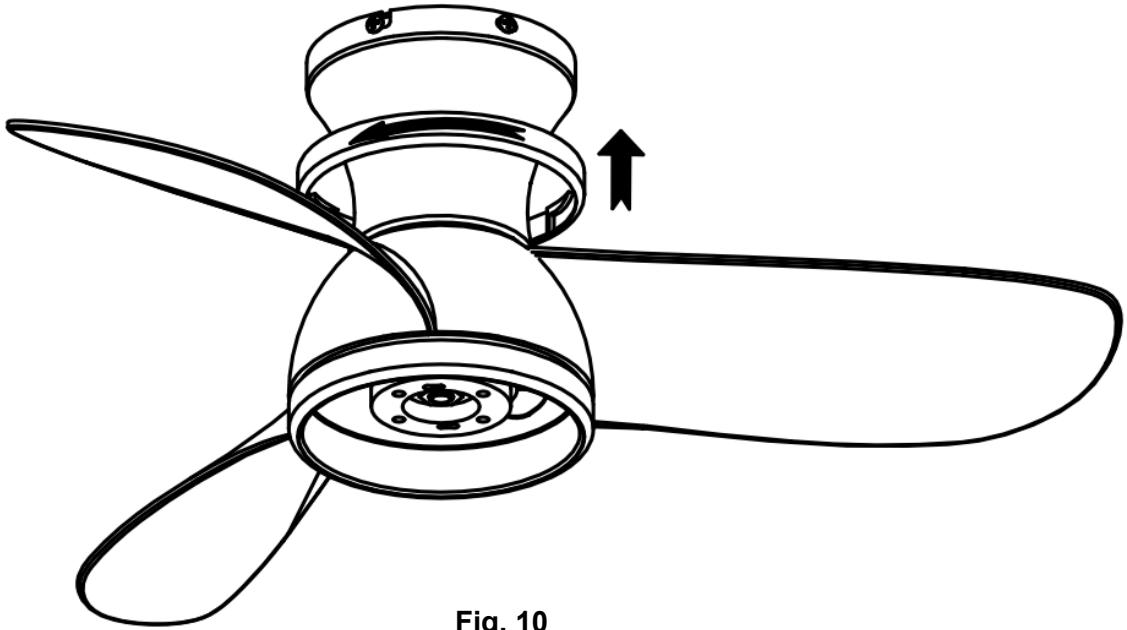

Fig. 10
- Slide the decorative ring up to the hanging canopy and attach it onto the hanging canopy. (Fig.10)